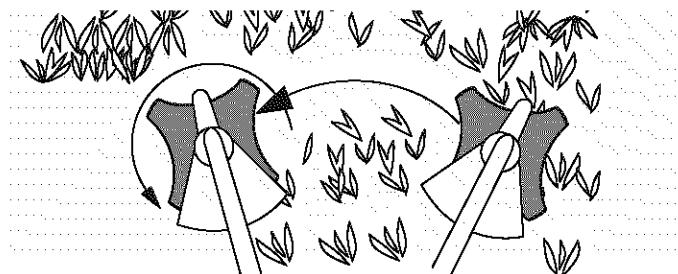

Fig. 22
- Swing the unit into material to be cut from your right to your left (Fig. 22).